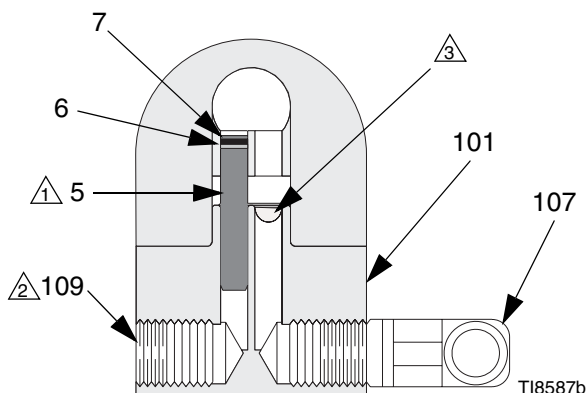

FIG. 1: Non-Circulating Setup Shown (cutaway view)
1. See FIG. 1. Apply anti-seize lubricant 222955 to the threads and mating faces of the manifold (101), plug (109), and elbow (107), supplied unassembled.
2. Install an elbow (107) in one fluid port of the manifold (101), and a plug (109) in the other port.
3. Install the internal plug (5) in the gun fluid port on the same side as the manifold plug.
4. Connect the fluid supply line to the manifold elbow (107).
5. Install the gun on the manifold, using the four screws (17). Start the threads of all four screws, and tighten the front two screws first, and then tighten the back two screws to 65 in-lb (7.3 N•m).